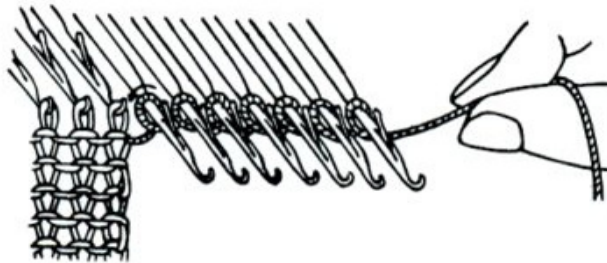

Fig. 60
- 2) Loosely wind yarn around stems of each needle. (Winding towards center) (See Fig. 60)